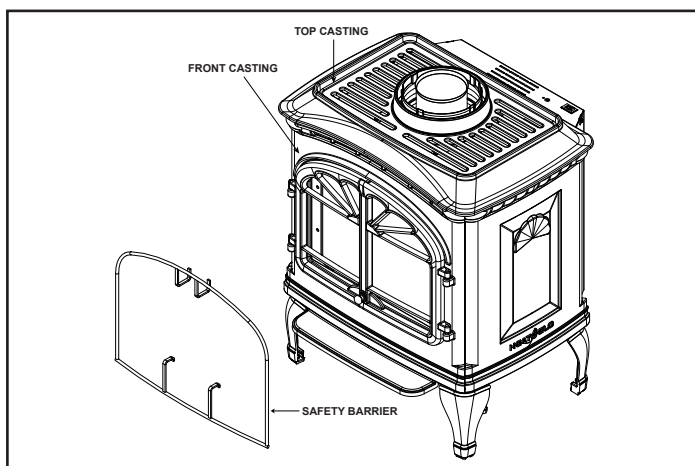

Figure 10.1 - Remove Casting
2. Remove front casting by grasping it at the top and lifting up. If the stove is already installed in a top vented configuration, the top casting will need to be lifted slightly to accommodate removal of the front casting, Figure 10.1. Set front casting aside on prepared work surface.
Reinstall the glass frame by engaging the latches at the bottom corners of the firebox with the glass frame tabs. See Figure 10.1 and 10.2 for reference. Reinstall front casting and safety barrier.